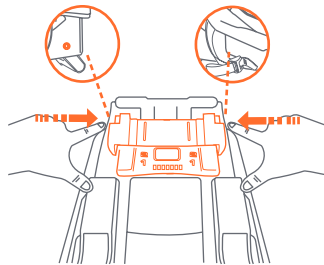

Fig. 57-2
- 2- Press elevation foot release buttons located on the side of the base (Fig. 57-2).